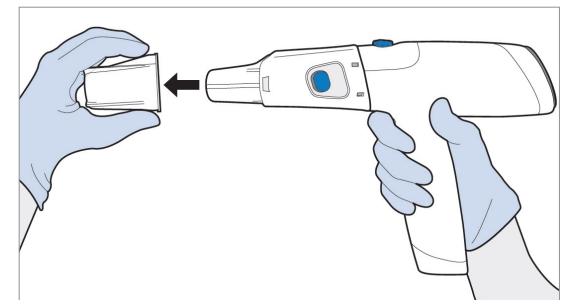

Figure 42 Remove Array Cap
19. Remove the cap from the Array (see Figure 42).